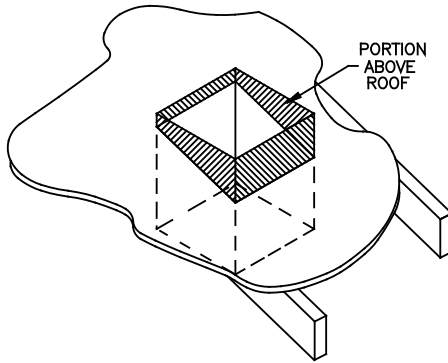

Figure 30
6. Run the Support Box through the roof as shown in (**Figure 30**), and place it so that the bottom of the Support Box protrudes at least 2 inches below the low side of your opening in the finished ceiling